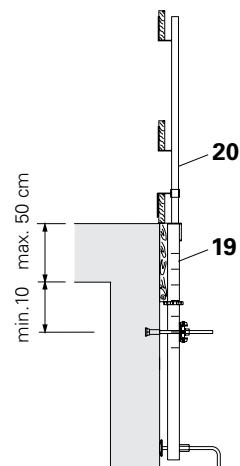

Fig. A5.03
With Slab Stopend Bar 105 (19) and Guardrail Post HSGP-2 (20). (Fig. A5.03)